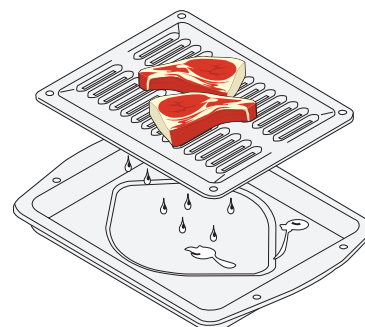

Fig.1 (some models)
5. Place the insert on the broil pan (if equipped), then place the food on the insert (if equipped; See Fig. 1).